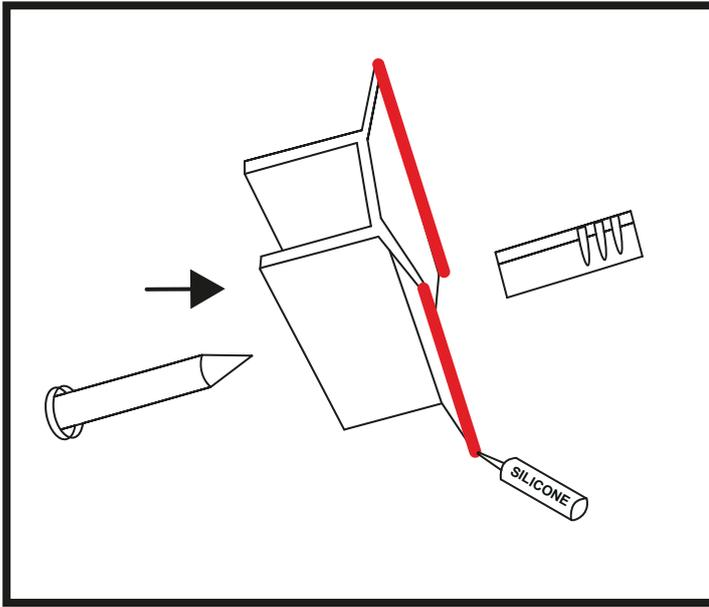

Figure 3
7. To attach the profile, apply silicone to the edges of the profile and place it on the wall, according to the previously marked locations. (Figure 3)